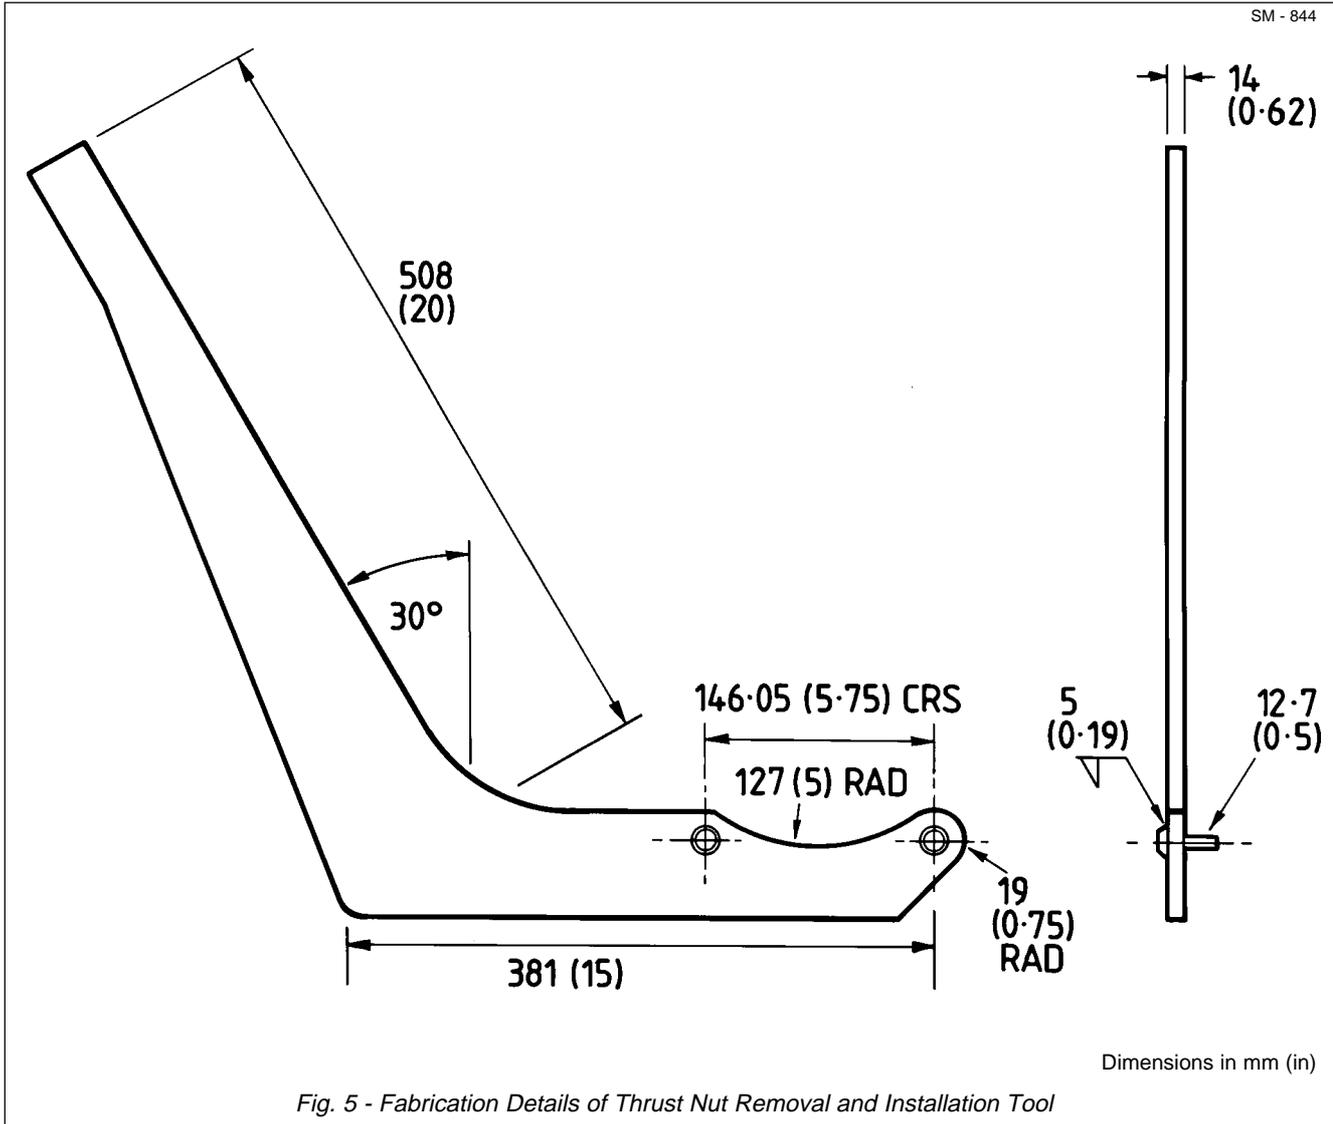

Fig. 5 - Fabrication Details of Thrust Nut Removal and Installation Tool
- b) Secure a special tool, which can be manufactured as shown in Fig. 5, to pivot thrust nut (11) and tighten thrust nut (11) until there is no end float/ clearance at thrust face of either bush. Slacken thrust nut (11) until pin of the locking plate (12) can be inserted in the first available hole in the thrust nut (11).
- c) Secure locking plate (12) with bolts (22) and lockwashers (21). Torque tighten bolts (22) to 94 Nm (69 lbf ft).
8. Install adaptor (54), connector (55), elbow (56) and pipe assembly (57) to oscillation hub.
9. Install brake yoke (18) on driveshaft (14) until it butts against bearing assembly cup and cone (9 & 8).
10. Install parking brake disc on brake yoke (18) and secure with bolts and washers. Tighten bolts to a torque of 49 Nm (36 lbf ft).
11. Install thrust washer (16) on rear of driveshaft (14).
12. Install nut (19) at rear of driveshaft (14), and tighten to a torque of 250 Nm (180 lbf ft) to seat bearing cup and cone assemblies (9 & 8).
13. Chap driveshaft (14) at both ends with a hide-faced hammer. Re-torque nut (19) to 250 Nm (180 lbf ft).
14. Back off nut (19) four flats, and chap rear end of driveshaft (14) with a hide-faced hammer to remove pre-load from bearing cup and cone assemblies (9 & 8).
15. Remove nut (19) from rear of driveshaft (14), install lockwasher (28) and reinstall nut (19).
16. Set up dial indicator with pointer positioned on rear end face of driveshaft (14). Push and pull on parking brake disc to move driveshaft (14) backwards and forwards, remembering to rotate shaft at the same time to obtain an accurate reading. Note dial indicator reading.